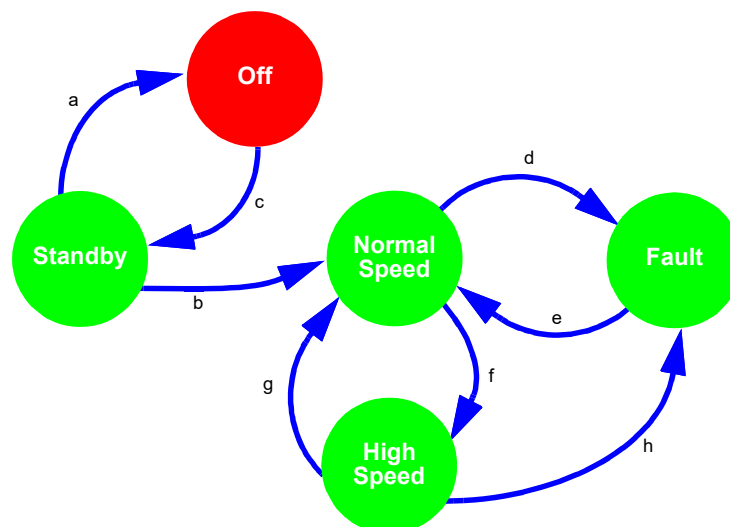

Figure 115: Asynchronous State Machine State Transitions
The Asynchronous State Machine macrocell is one of several macrocells in the Asynchronous State Machine Subsystem, and its specific role is to hold one active state at a time, and to facilitate user defined state transitions in a fast and power efficient manner. This macrocell is designed to allow the user to create state machines with between 2 to 12 states. When combined with the other macrocells in the ASM subsystem [four Dynamic Memory (DMx\_x) macrocells, three Matrix Interface (MIx) macrocells, and one f(1) Computation Macrocell], the user has flexibility to define the available states, the available state transitions, and the input signals (a, b, c ...) that will cause transitions from one state to another state, as shown in the example in Figure 115.